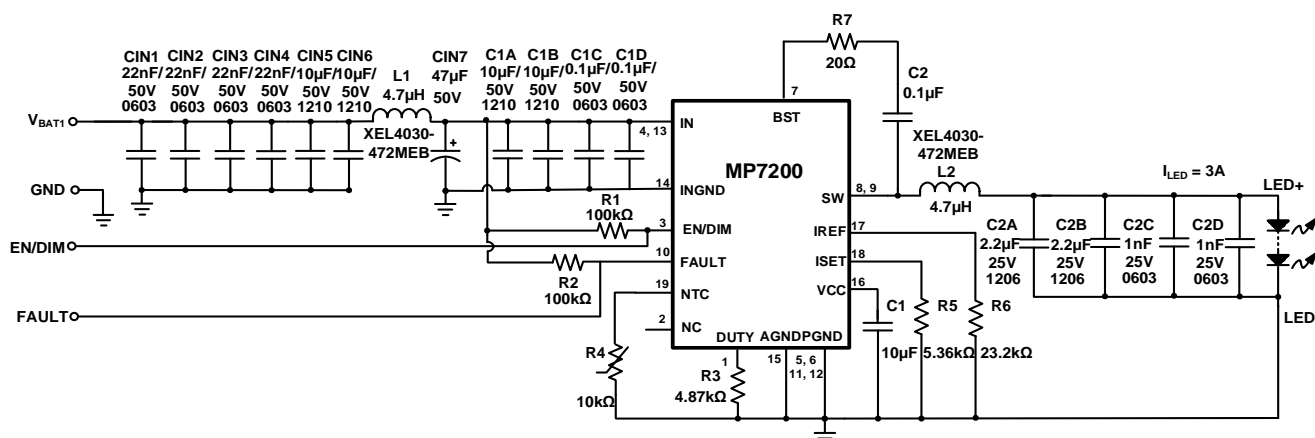

Figure 11: $I_{LED} = 3A$ Buck Application Circuit with No Two-Step Dimming
- 13) The recommended layout is based on Figure 11.